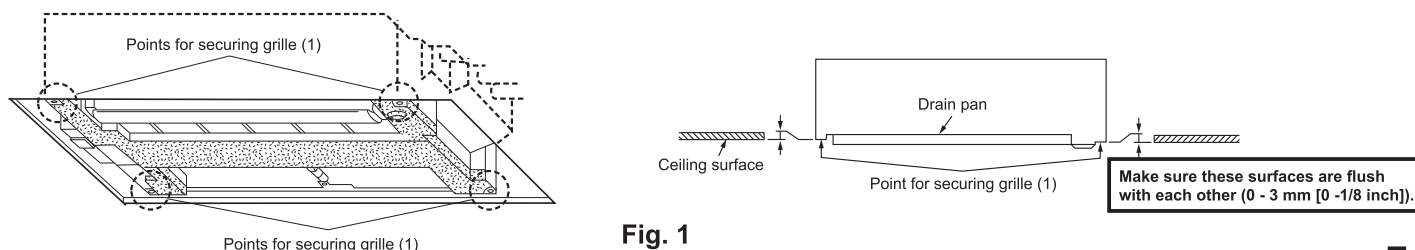

Fig. 1
- Before installing the grille (1), make sure the indoor unit is square with the ceiling opening (or parallel to the wall-ceiling joint).
- Check that the 4 points for securing the grille (1) on the indoor unit are level with the ceiling surface.**
Use the installation template supplied with the indoor unit to arrange the position of the indoor unit so that the 4 points for securing the grille (1) are level with the ceiling surface with a tolerance of 3 mm (1/8 inch). (Fig. 1)